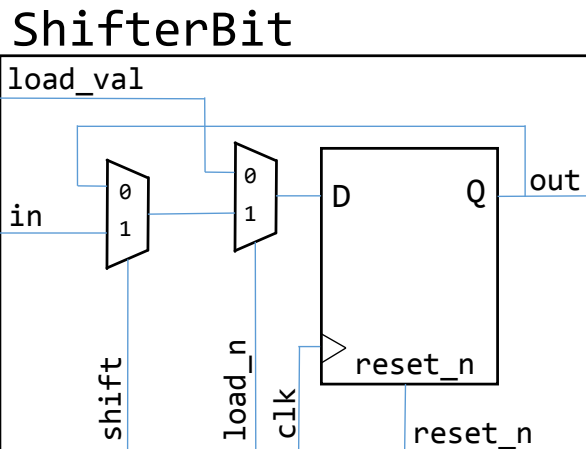
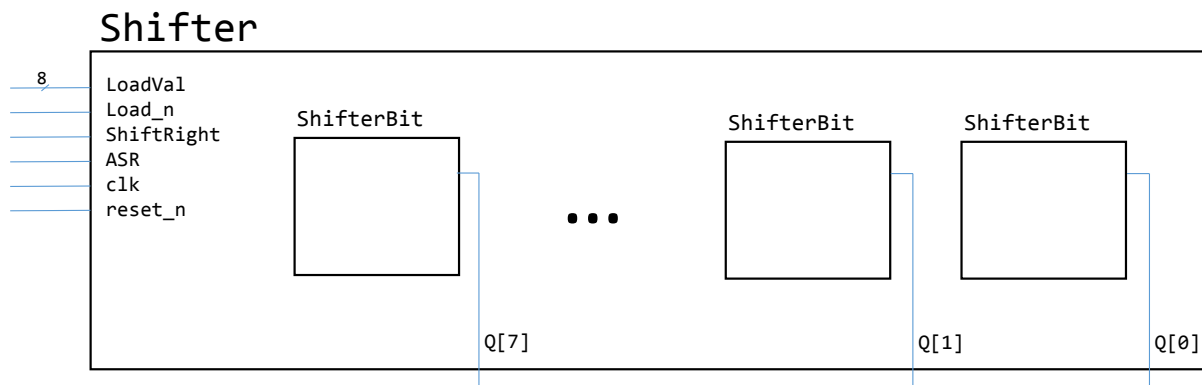

Figure 5: Single-bit shift-register
Figure 6: 8-bit shift-register of Part III. **None** of internal connections are shown here.
In this part of the lab, you will create an 8-bit shift-register that has an optional arithmetic shift. A **shift register** is a collection of flip-flops that move values sequentially between each other on each clock edge. Figure 5 shows one bit of this shift-register. It contains a **positive** edge-triggered flip-flop and **two multiplexers**. To create an 8-bits shift-register, you will use eight instances of the circuit in Figure 5 to design your 8-bit shift-register with optional arithmetic shift and parallel load as shown in Figure 6.
In the **Shifter** module, create an 8-bit-wide register input **LoadVal**, whose individual wires are connected to **load_val** input of **ShifterBit** instances. Likewise, create an 8-bit-wide output **Q**, which is the output of **ShifterBit** instances. **The *shift* input of all eight instances of the circuit in Figure 5 should be connected to the single input *ShiftRight***. The same thing applies to **load_n**, **clock (*clk*)**, and **reset_n**.
The **in** input of seven instances should be connected to the **out** port of the instance to its left. For the leftmost **ShifterBit**, you should design a circuit that will **perform sign-extension when the signal *ASR* is high (arithmetic right shift) or load zeros if *ASR* is low (logic right shift)**. This special circuit is not shown in Figure 6.
1. What is the behaviour of the 8-bit shift register shown in Figure 6 when $Load_n = 1$ and $ShiftRight = 0$? Briefly explain in your prelab. (PRELAB)
2. Draw a schematic for the 8-bit shift register shown in Figure 6 including the necessary connections. Your schematic should contain eight instances of the one-bit shifter shown in Figure 5 and all the wiring required to implement the desired behaviour. Label the signals on your schematic with the same names you will use in your Verilog code. (PRELAB)
3. Starting with the code in Figure 2 for a positive edge-triggered D flip-flop, use this D flip-flop with instances of the `mux2to1` module from Lab 2 to build the one-bit shifter shown in Figure 5. To get you started, Figure 7 is a code snippet that shows how the D flip-flop will be connected to one of the 2-to-1 multiplexers. (PRELAB)